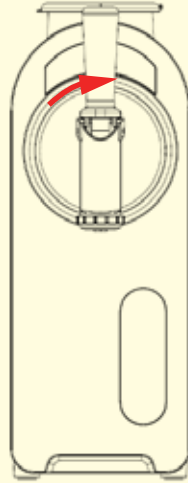
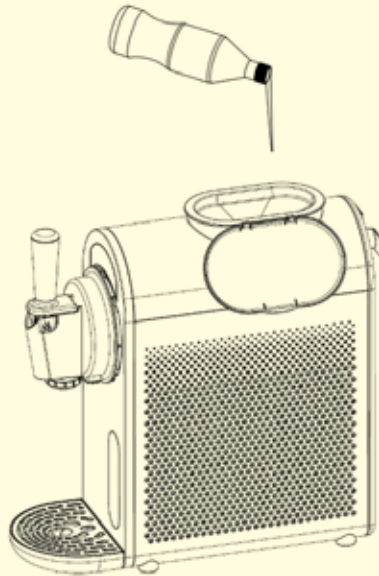
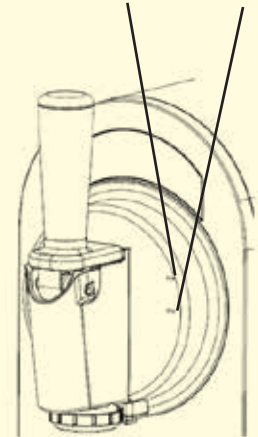

Figure 1
Figure 2
Figure 3
1. Before pouring the ingredients into the inlet funnel seat, check whether the transparent outlet port cover is locked to ensure that the outlet assembly parts are installed in place (See Cleaning for disassembly a and assembly steps. The handle should be in a straight upright position (Figure 1). Please install the dispensing handle and drip tray before using for the first time). Open the inlet funnel cover, then slowly pour the ingredients into the inlet funnel seat (Figure 2), ensuring that the liquid volume is between the minimum and maximum water levels (Figure 3).